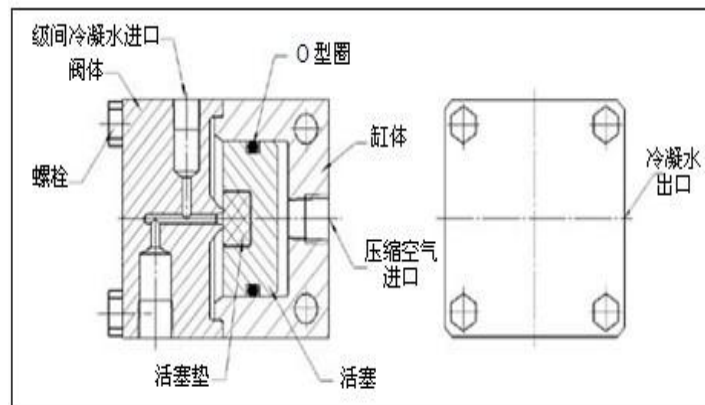

图 7-1 自动排水阀
一般讲，此阀不需要维修。但是，如果发现阀存在空气或冷凝水泄漏（通过压缩机加载运行时排放管路流量来确定），则说明阀活塞“O”型圈（参见图 7-1）可能有故障，或者排放阀体上的活塞密封表面可能划伤或者拉伤。
- Normally, this valve should require no maintenance. However, if there is evidence of air or condensate leakage through the valve (determined by flow from the drain lines while the compressor is operating loaded), the valve piston ,O-rings (See Figure 7-1) may be defective, or the piston sealing surfaces on the drain valve body may be scratched or wire drawn.
- To disassemble the valve, refer to Figure 7-1 and proceed as follows: